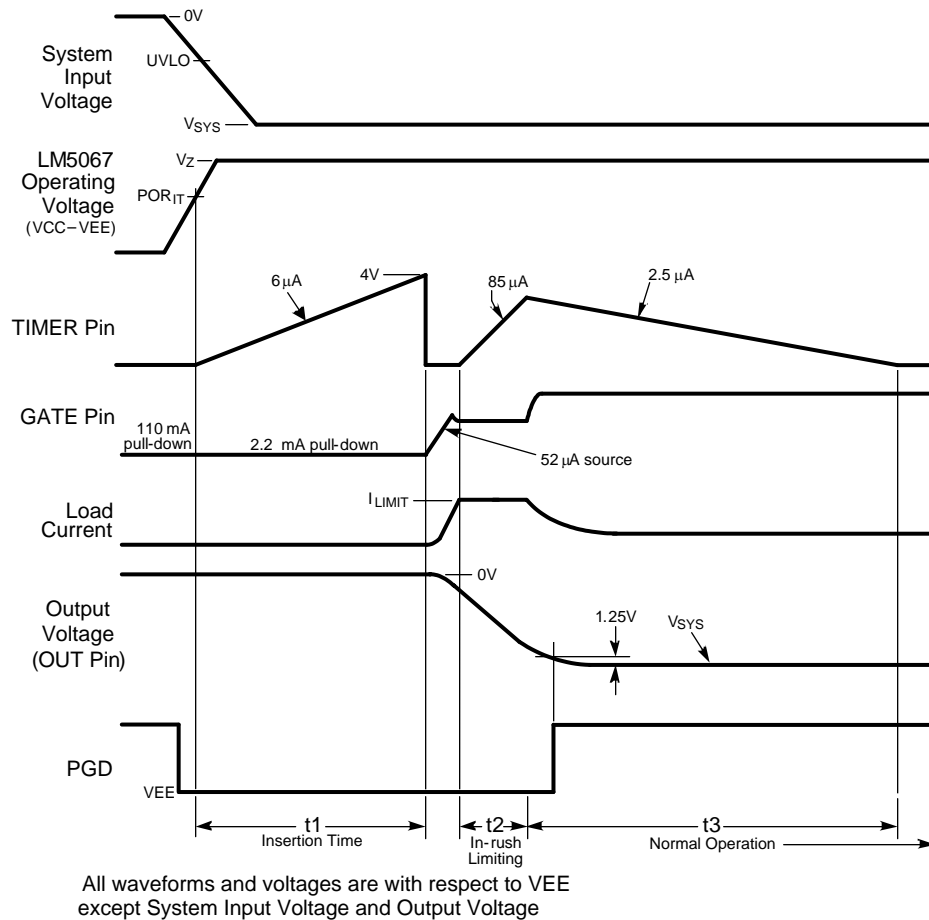

Figure 6. Power Up Sequence (Current Limit only)
The system voltage range of the LM5067 is -9V to -80V, with a transient capability to -100V. Referring to the Block Diagram, Figure 4, and Figure 6, as the system voltage (V_{SYS}) initially increases from zero, the external N-channel MOSFET (Q1) is held off by an internal 110 mA pull-down current at the GATE pin. The strong pull-down current at the GATE pin prevents an inadvertent turn-on as the MOSFET’s gate-to-drain (Miller) capacitance is charged. When the operating voltage of the LM5067 ($V_{CC} - V_{EE}$) reaches the POR_{IT} threshold (7.7V) the insertion timer starts. During the insertion time, the capacitor at the TIMER pin (C_T) is charged by a 6 μA current source, and Q1 is held off by a 2.2 mA pull-down current at the GATE pin regardless of the system voltage. The insertion time delay allows ringing and transients at V_{SYS} to settle before Q1 can be enabled. The insertion time ends when the TIMER pin voltage reaches 4.0V above VEE, and C_T is then quickly discharged by an internal 1.5 mA pull-down current. After the insertion time, the LM5067 control circuitry is enabled when the operating voltage reaches the POR_{EN} threshold (8.4V). As V_{SYS} continues to increase, the LM5067 operating voltage is limited at $\approx 13V$ by an internal zener diode. The remainder of the system voltage is dropped across the input resistor R_{IN} .
The GATE pin switches on Q1 when V_{SYS} exceeds the UVLO threshold (UVLO pin $>2.5V$ above VEE). If V_{SYS} exceeds the UVLO threshold at the end of the insertion time, Q1 is switched on at that time. The GATE pin sources $52 \mu A$ to charge Q1's gate capacitance. The maximum gate-to-source voltage of Q1 is limited by the LM5067's operating voltage (V_Z) to approximately 13V. During power up, as the voltage at the OUT pin increases in magnitude with respect to Ground, the LM5067 monitors Q1's drain current and power dissipation. In-rush current limiting and/or power limiting circuits actively control the current delivered to the load. During the in-rush limiting interval (t_2 in Figure 6) an internal current source charges C_T at the TIMER pin. When the load current reduces from the limiting value to a value determined by the load the in-rush limiting interval is complete and C_T is discharged. The PGD pin switches high when the voltage at the OUT pin reaches to within 1.25V of the voltage at the SENSE pin.
The external N-channel MOSFET is turned on when the GATE pin sources 52 μA to enhance the gate. During normal operation (t_3 in Figure 6) Q1's gate is held charged to approximately 13V above VEE, typically within 20 mV of the voltage at VCC. If the maximum V_{GS} rating of Q1 is less than 13V, a lower voltage external zener diode must be added between the GATE and SENSE pins. The external zener diode must have a forward current rating of at least 110 mA.
During the insertion time (t_1 in Figure 6) the GATE pin is held low by a 2.2 mA pull-down current. This maintains Q1 in the off-state until the end of t_1 , regardless of the voltage at VCC and UVLO.
Following the insertion time, during t_2 in Figure 6, the gate voltage of Q1 is modulated to keep the current or Q1's power dissipation level from exceeding the programmed levels. Current limiting and power limiting are considered fault conditions, during which the voltage on the TIMER pin capacitor increases. If the current and power limiting cease before the TIMER pin reaches 4V the TIMER pin capacitor is discharged, and the circuit enters normal operation. See Fault Timer and Restart for details on the fault timer.
A) Insertion Delay - Upon applying the system voltage (V_{SYS}) to the circuit, the external MOSFET (Q1) is held off during the insertion time (t_1 in Figure 6) to allow ringing and transients at V_{SYS} to settle. Since each backplane's response to a circuit card plug-in is unique, the worst case settling time must be determined for each application. The insertion time starts when the operating voltage (VCC-VEE) reaches the POR_T threshold, at which time the internal 6 μA current source charges C_T from 0V to 4.0V. The required capacitor value is calculated from: